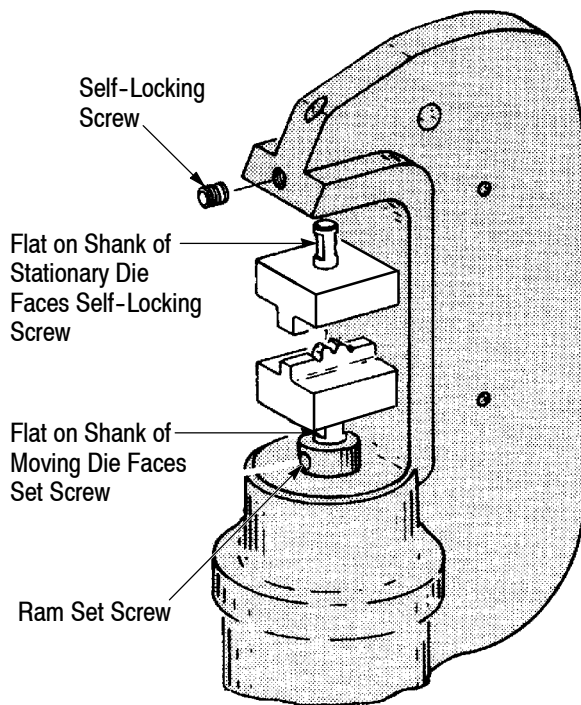

Figure 2
1. Back off the self-locking screw in the "C"-head and set screw in the ram (ram must be advanced to gain access to the set screw). Refer to Figure 2.
2. Insert the dies in the "C"-head and ram, ensuring that the flat on each die shank faces the screw. See Figure 2.
- Changed ram "lock screw" to ram "set screw" in Figure 2